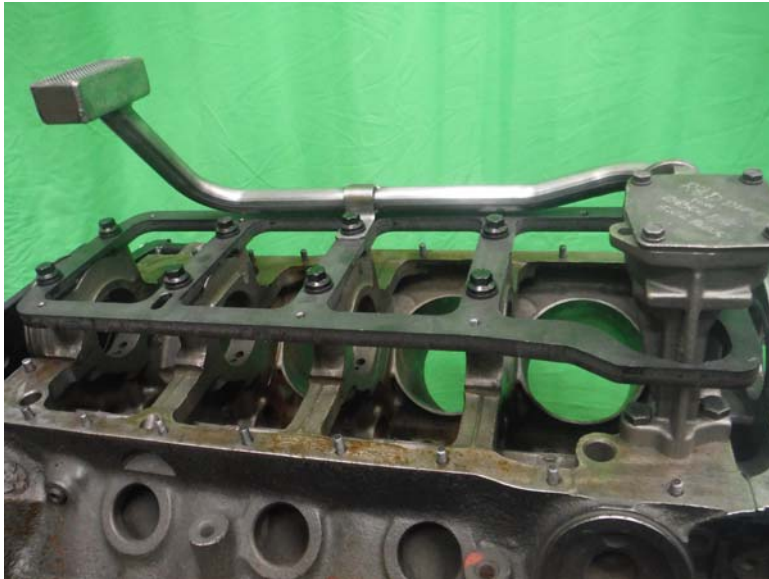

FIG 5
- 2) With engine inverted as shown (fig 5) on an engine stand remove all (10) main cap screws.